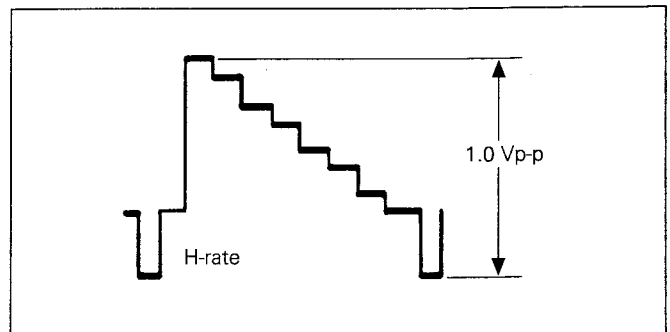

Fig.3-4-7 PB Y level
- (1) Connect an oscilloscope to Y OUT TERMINAL.
- (2) Record a color bar signal in S-VHS(VHS) mode and play it back.
- (3) Adjust **SET** or **SELECT** button for $1.00 \pm 0.03Vp-p$ as shown in Fig.3-4-7.
- (4) Set normal VCR mode by pressing **MENU** button so adjustment data is memorized.